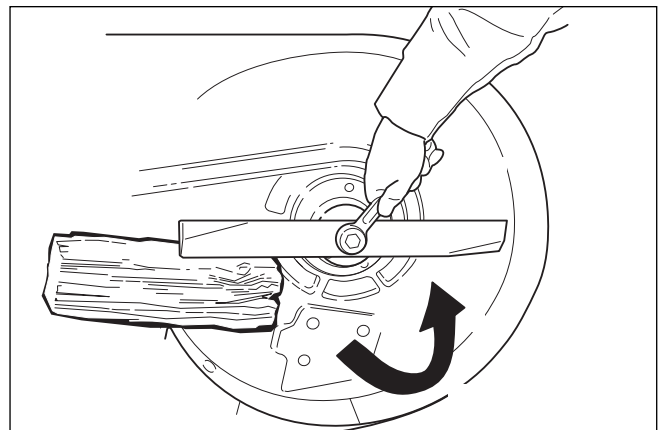

Figure 24. Loosening the Mower Blade for Removal
1. See Figure 24. To remove the mower blade, wedge a wooden block between the mower blade and the mower deck housing to keep the mower blade from turning, then remove the mower blade and the mower blade retaining hardware.